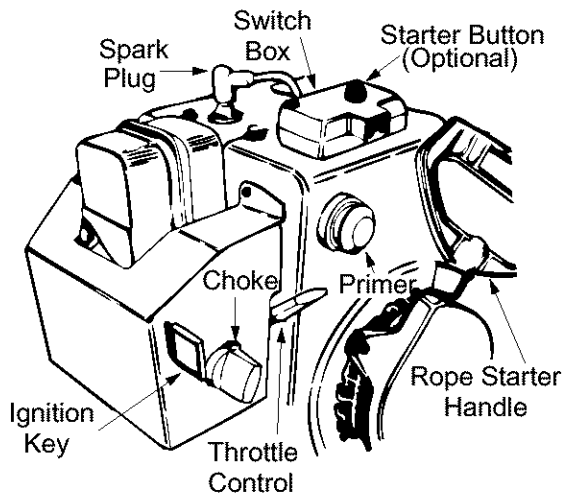

Figure 19
4. Move throttle control up to FAST position. Insert ignition key into slot. See Figure 19. Be certain it snaps into place. Do not turn key.
3. Push starter button to crank engine. See Figure 19. As you crank the engine, move choke knob to FULL choke position. (cold engine start)
3. Push primer button two or three times for cold engine start. See Figure 19.
5. Grasp starter handle (see Figure 19) and pull rope out slowly, until it pulls slightly harder. Let rope rewind slowly.